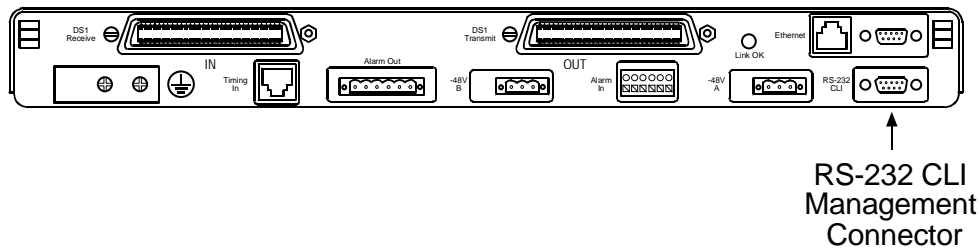

Figure 7-1. Location of RS-232 CLI Connector
2. Connect RS-232 DCE-to-DTE cable with 9-pin DE9 (DB9) connector on one end to RS-232 CLI management connector on rear panel of Access Navigator (see Figure 7-1).